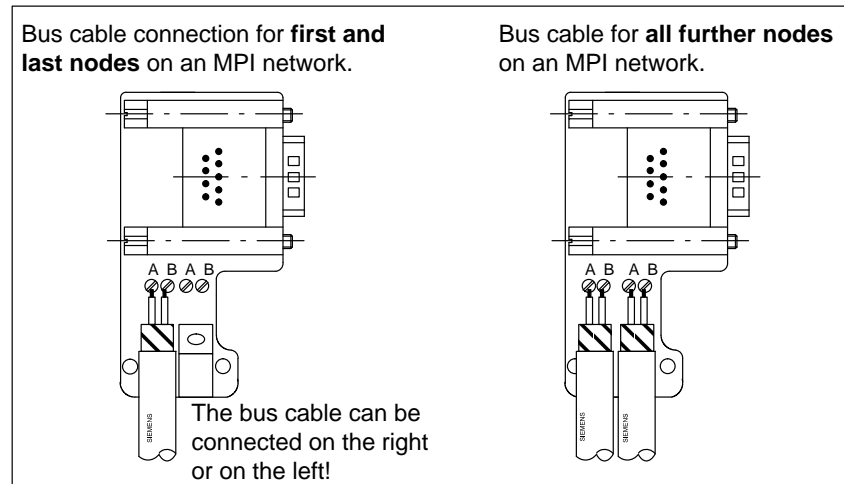

Figure 3-12 Connecting Bus Cable to the Bus Connector
5. Insert the green core and the red core in the screw terminal block in accordance with Figure 3-12.